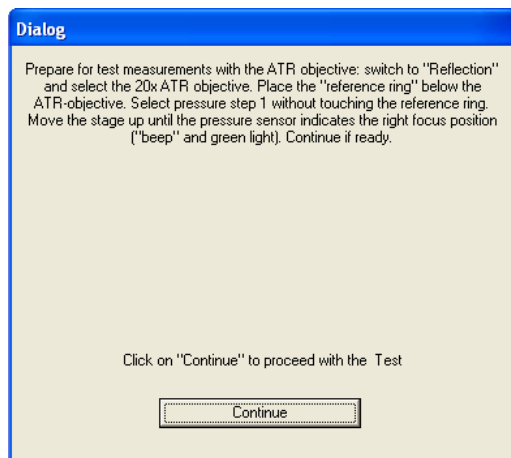

Figure 57: OPUS Reminder Message
- Thereupon, the message window shown in figure 57 appears reminding you to check whether the microscope is prepared as described in the above section *Preparing the Microscope with ATR Objective for the PQ Test*.